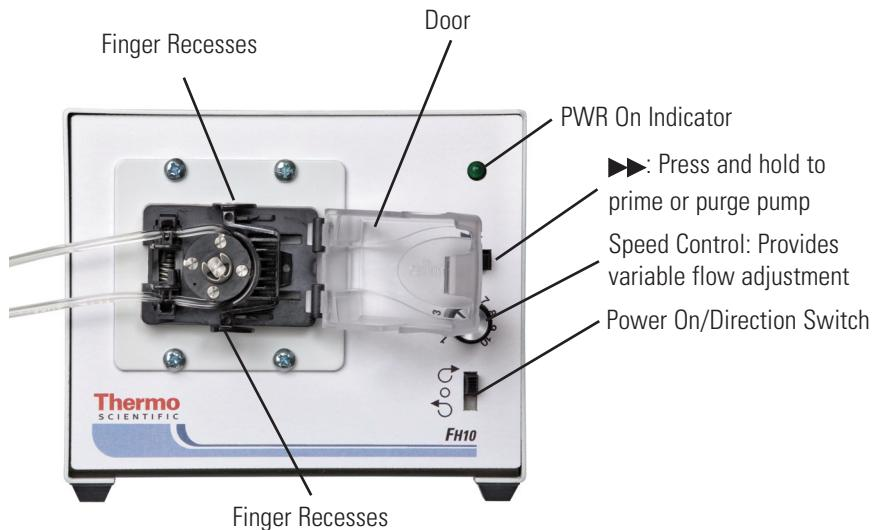

Figure 1-2. Pump – Front Panel
The single-turn, adjustable Speed Control, Figure 1-2, provides variable flow-operation. The green PWR On indicator lights whenever the pump is operating. The Power On/Direction Switch turns power on when either clockwise or counterclockwise pump rotor direction is selected. The ►► Button is used for priming and purging and operates the pump at maximum speed while depressed.
1. Place the Power On/Direction Switch, Figure 1-2, in the center (Off) position.
2. Open the Door, Figure 1-2, by grasping the finger recesses on either side and pulling away from the pump.